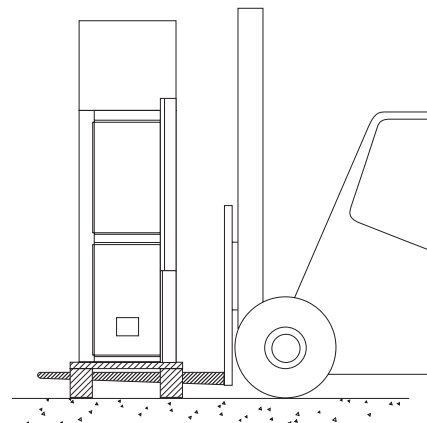

Figure 2.2 Loading by forklift truck
- position the forklift truck forks through the sides of the cubicle pallet, ensuring the forks reach through the pallet (refer to figure 2.2)